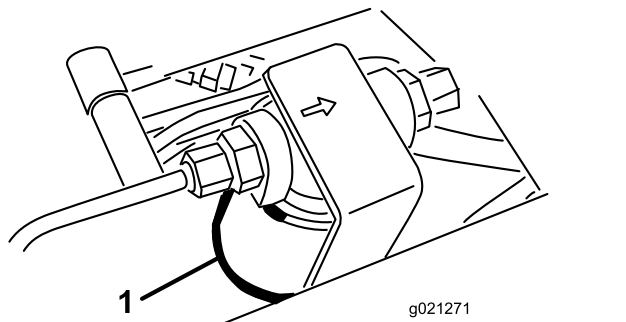
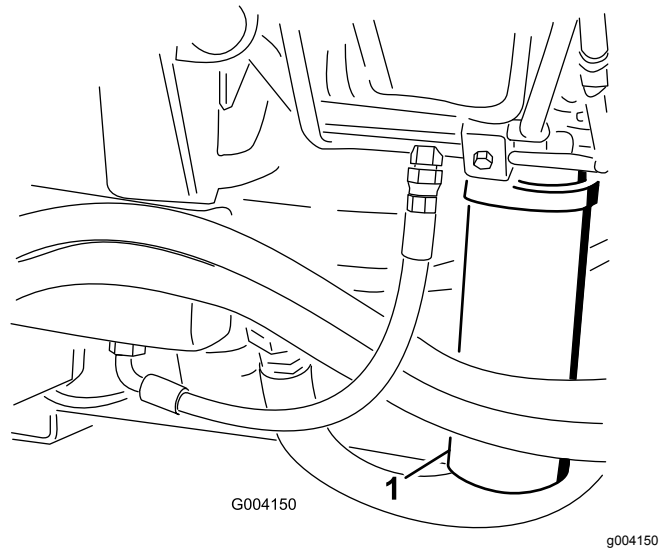

Figure 102
Figure 103
2. Clean the area around the filter-mounting area and place a drain pan under the filter (Figure 102) and (Figure 103).